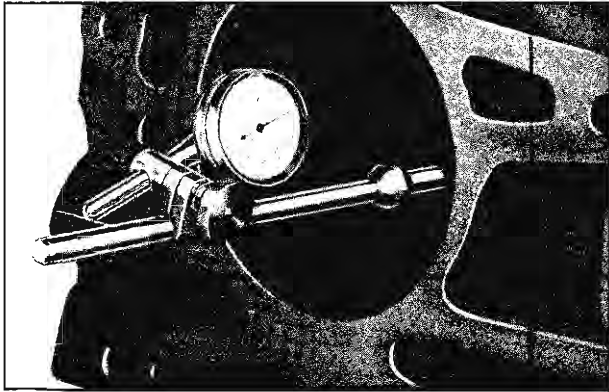

Fig. 51—Transmission Pilot Hole Runout
2. Install indicator extension in a crankshaft stud hole, attach indicator to extension and check pilot hole runout (fig. 51). This runout should not exceed .008".